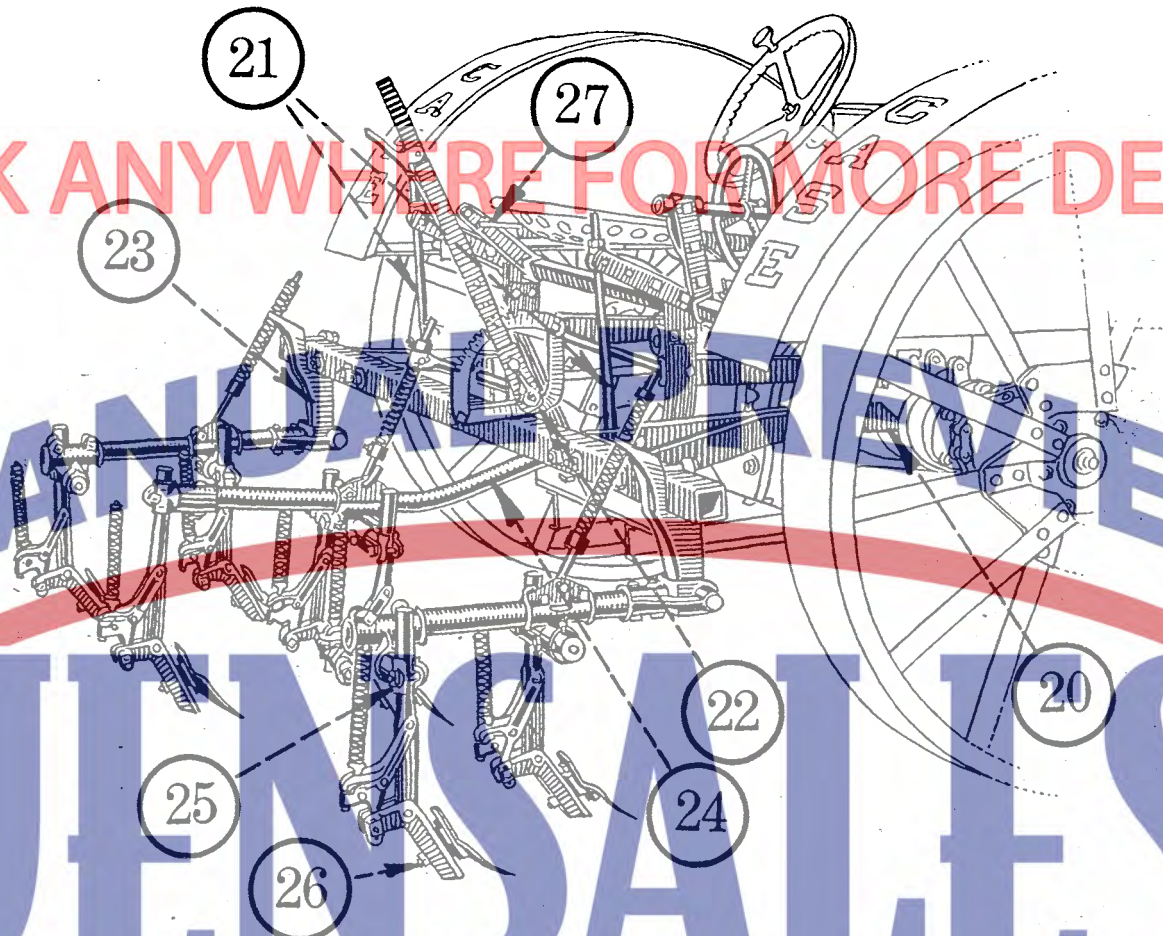

Fig. 11. Attaching Rear Beam Cross Bar for Two Row Cultivator
21. Fig. 11. Connect lifting links between rear cross shaft arms and rear beam cross bar, putting both lock nuts on top of arm so link can float through swivel.
22. Fig. 11. Bolt lever for adjusting center beam in place on top of cross bar.
23. Fig. 11. Attach beams to beam brackets on cross bar and put pressure rods in place.
24. Fig. 11. The center beam attaches at center of platform.
25. Fig. 11. Put shovel standards in place and draw up clamp bolts.
26. Fig. 11. Bolt shovels and sweeps to the standards.